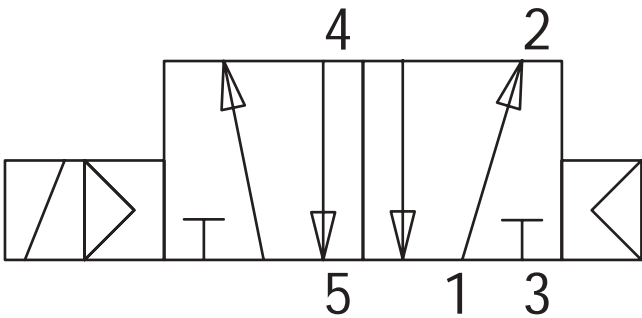
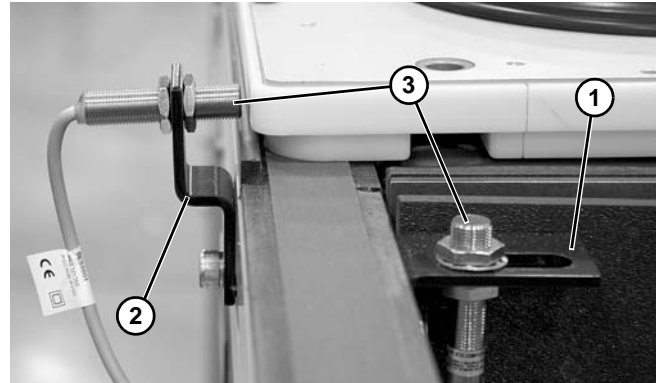

Figure 64
**Figure 67**
Dorner recommends using a 5 port, 2 way solenoid valve (Figure 64) to operate the Rotating Actuator.
1. Connect Port 4 (**Figure 64**) of the 5 port, 2 way solenoid to the left port (**Figure 67, item 1**) of the rotator. Dorner fittings accept 1/4" outside diameter tubing standard.
2. Connect Port 2 (**Figure 64**) of the 5 port, 2 way solenoid to the right port (**Figure 67, item 2**) of the rotator. Dorner fittings accept 1/4" outside diameter tubing standard.